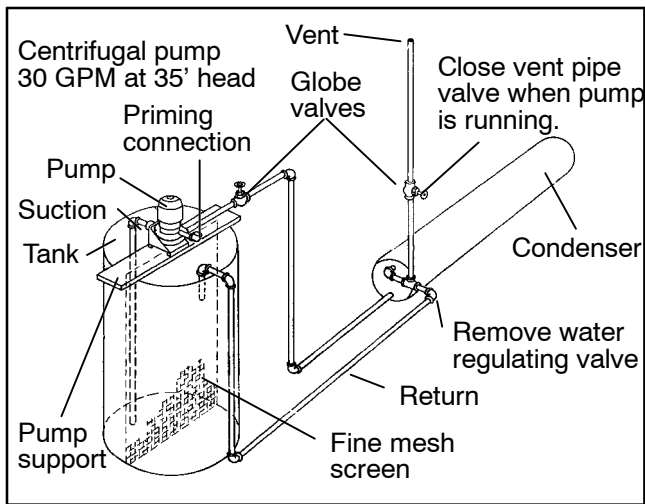

Figure 38. Water-Cooled Condenser Cleaning - Forced Circulation
5. Fill the tubes with this solution by filling from the bottom. See Figure 38.